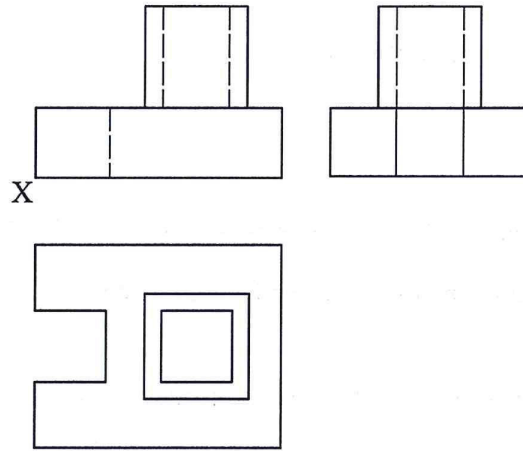

Figure 3
10. **Figure 3** shows three views of a block drawn in first angle projection. In good proportion, draw the block in isometric projection with X as the lowest point (7 marks)